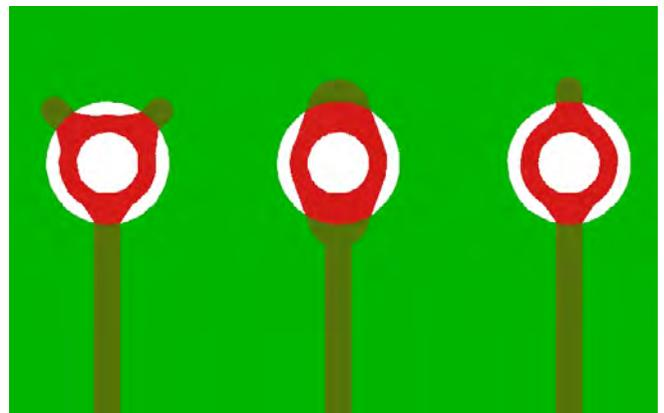

Figure 2: Anchoring pads.
4. Anchoring pads: When the flex layer is an outer layer in flex circuits and rigid-flex circuits, there is a weak point at the conductor/pad interface. Any stress to this area can cause a fracture of the conductor at this point. The best way to prevent this is to provide specific reinforcements to the isolated pads on flex layers. Anchoring the pads will assist with this type of design. There are a number of ways to potentially anchor pads and some of the popular ones are illustrated in Figure 2.